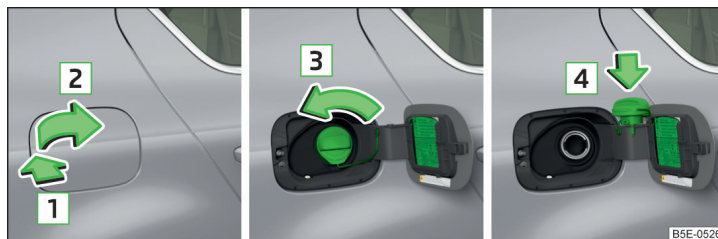

Fig. 180 Open fuel filler flap/unscrew tank cap/place the tank cap on the fuel filler flap
The correct fuels for your vehicle are specified on the inside of the fuel filler flap » Fig. 180 on page 188.
- Press on the fuel filler flap in the direction of arrow **1** » Fig. 180.